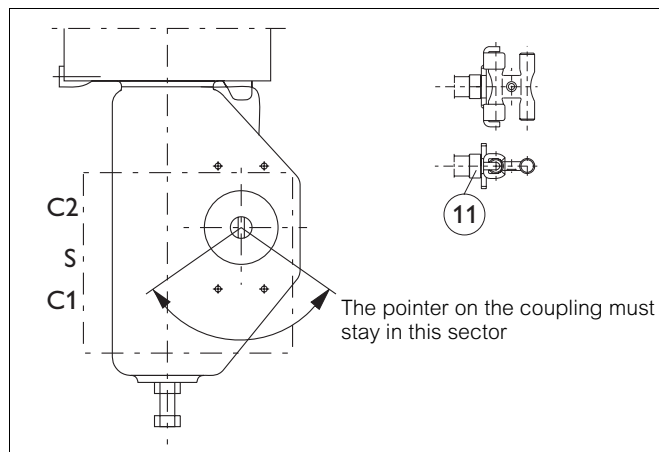

Fig. 4 Mounting on Metso actuator with VDI/VDE mounting face
- ❑ Mount the H-shaped coupling (47) to the shaft. Apply the thread-locking compound to the screw (48) and tighten firmly.
- ❑ Remove the protective plastic plugs from pneumatic connections C2, S and C1. Leave the metal plugs (54) in the unused connections at the bottom of the controller.
- ❑ **BJ and other single acting actuators:** install a metal plug (53) with sealant to the C1 connection.
- ❑ Set the direction arrow of the actuator in the direction of the valve closure member and attach the ear (2) to the indicator cover in the position shown in Section 12.3. Secure the screw of the ear using e.g. Loctite and tighten firmly.
- ❑ Attach the bracket (1) to the ND9200H.
- ❑ Attach the bracket (1) to the actuator. The shaft coupling of the ND9200H must fit into the ear (2) so that the pointer is located in the position shown in Fig.4.